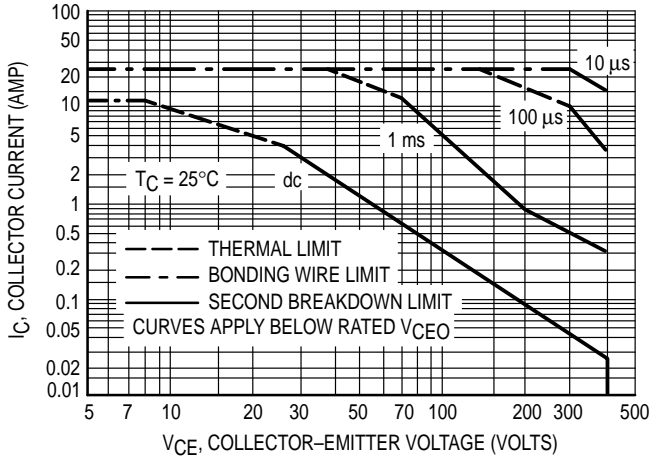
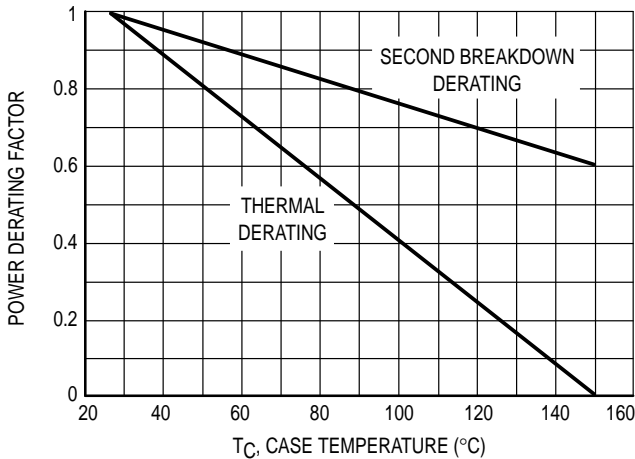

Figure 1. Forward Bias Safe Operating Area
Figure 3. Forward Bias Power Derating
The Safe Operating Area figures shown in Figures 1 and 2 are specified ratings for these devices under the test conditions shown.
The data of Figure 1 is based on  $T_C = 25^\circ\text{C}$ ;  $T_{J(pk)}$  is variable depending on power level. Second breakdown pulse limits are valid for duty cycles to 10% but must be derated when  $T_C \geq 25^\circ\text{C}$ . Second breakdown limitations do not derate the same as thermal limitations. Allowable current at the voltages shown on Figure 1 may be found at any case temperature by using the appropriate curve on Figure 3.
- (1) The device thermal limitations are not exceeded.
- (2) The turn-on time does not exceed 10  $\mu$ s (see standard pulsed forward SOA curves in Figure 1).